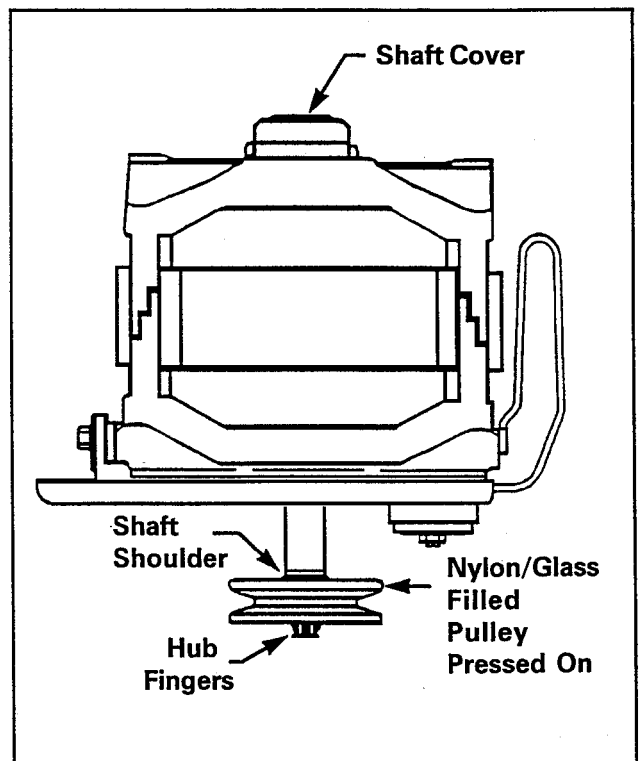

Figure 8-15
3. Place a 1/2 inch I.D. socket, pipe, etc., over the hub fingers and gently tap the pulley over the splines until it bottoms out on the shaft shoulder (Figure 8-15).